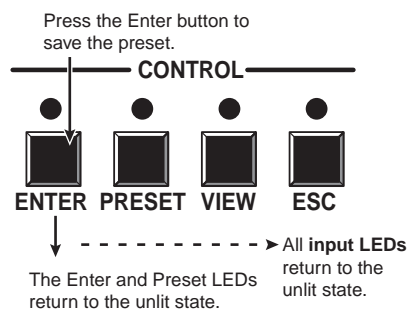

Figure 3-36 — Press the Enter button
4. Press and release the Enter button (figure 3-36). The current configuration is now stored in memory location 17.